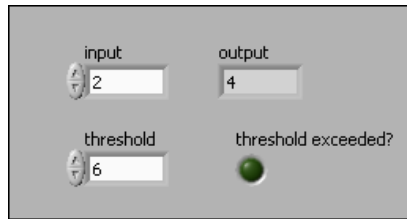

Figure 10. Changing the Labels
2. Rename the controls by clicking the labels and entering new names as shown in Figure 10.